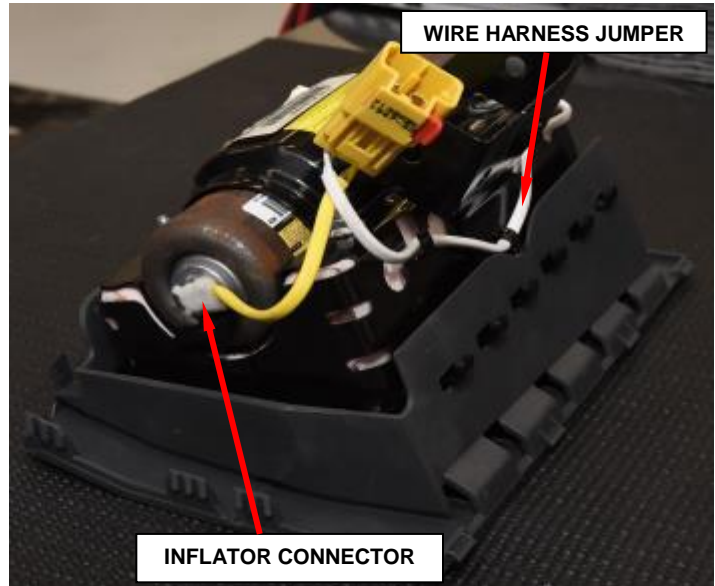

Figure 32 – Inflator Connector
- b. Disconnect the single yellow wire inflator connector from the end of the inflator using pliers (Figure 32).
- i. Connect the single yellow wire inflator connector to the end of the inflator after removing the protective tape from the end of the inflator (Figure 32).